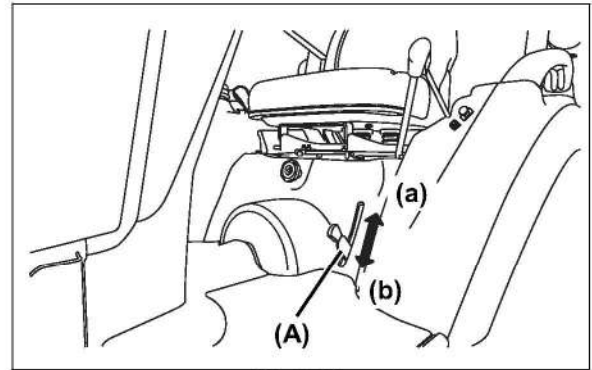

Fig 5-37
### (26) 2WD/4WD lever (Fig 5-37)